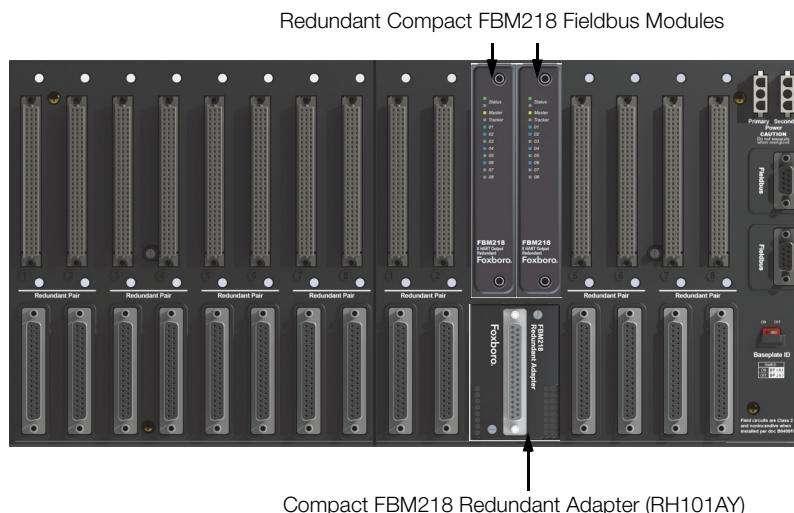

Figure 1. Compact FBM218 Redundant Module Configuration
A pair of the modules combines to provide redundancy at the Fieldbus Module (FBM) level, with field output signals wired to one common termination assembly (see Figure 1). In this configuration, one Compact FBM218 is the Master, and the other is the Tracker.
Redundant modules must be located in adjacent positions on the baseplate, with the first module located in an odd-numbered position (for example, the positions labelled "3" and "4"). To achieve redundancy, a redundant adapter module is placed on the two adjacent baseplate termination cable connectors to provide termination for a single cable (see Figure 1). A single termination cable connects from the redundant adapter to the associated termination assembly (TA).